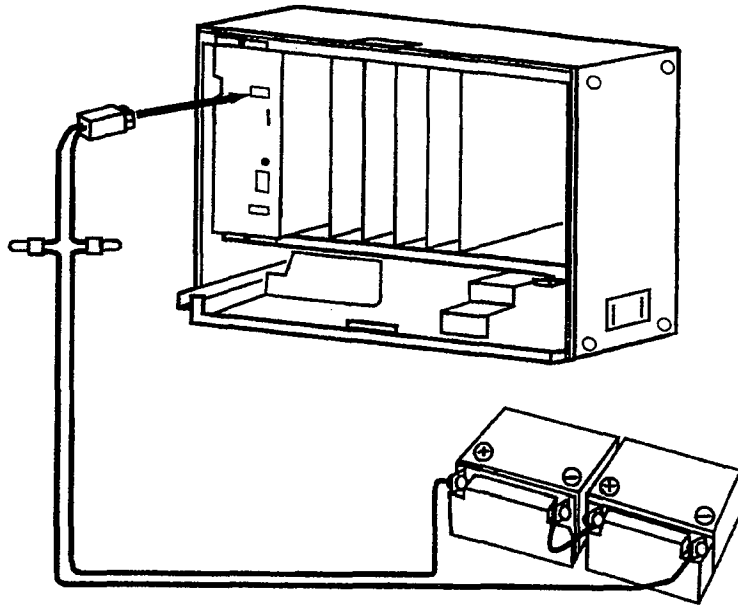

Figure 2-20 Connecting the Expansion Batteries to the Power Supply
4. Connect the cord to the DC IN on the power supply unit of the KSU. Refer to Figure 2-20 - Connecting the Expansion Batteries to the Power Supply.